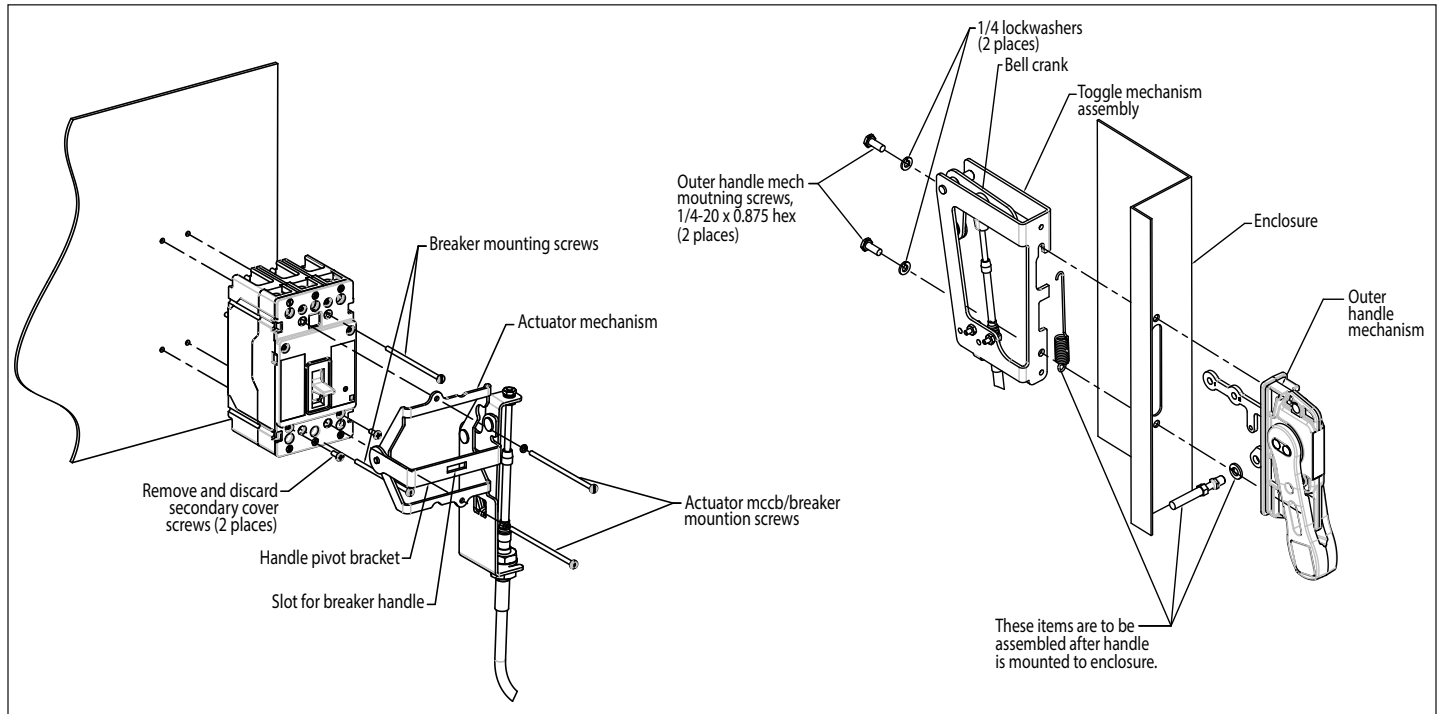

Figure 3. Securing the actuator mechanism to the breaker, toggle mechanism, and handle to enclosure.
For assembly steps, refer to Figure 3, unless otherwise noted.
4. Remove and discard the two secondary cover screws shown in Figure 3. Verify that the breaker is in the "Trip" position. Put the outer handle mechanism in the "Trip" position for ease of mounting the actuator mechanism.
5. Place the actuator mechanism around the front of the breaker (see Figure 3). Orient the handle pivot bracket so that the slot captures the breaker handle. Fasten securely with the two M4 x 80 mm actuator mechanism/breaker mounting screws and lock washers, as shown. Tighten 10 lb-in (1.1 N·m).